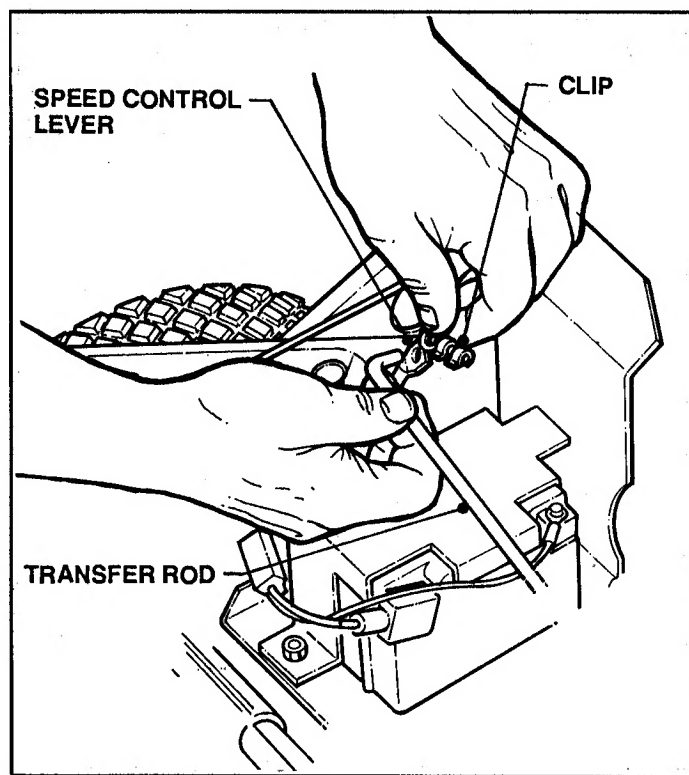

FIGURE 2.7
1. Remove clip from the transfer rod. See Figure 2.7.
2. Disconnect the transfer rod from the speed control lever. Refer to Figure 2.7.
10. Reconnect transfer rod to speed control lever. Refer to Figure 2.7.